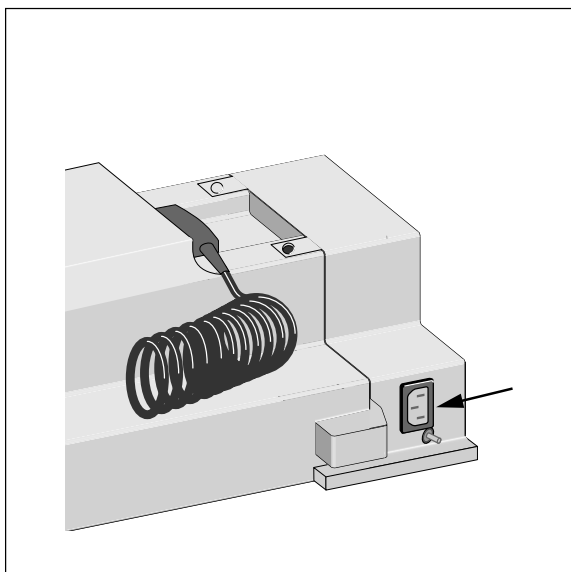

Figure 3-1. Defibrillator with AC power adapter
- from the power line (requires AC power adapter, P/N 205 108 01, Figure 3-1),